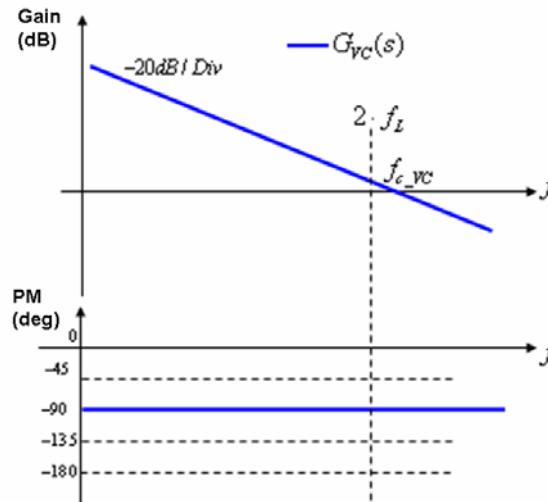

Figure 11—Bode Plots of  $G_{VC}(s)$
Therefore, we can draw the bode plots of the  $G_{VC}(s)$  with constant power load, as is shown in Figure 11.
From Figure 11 to see, the DC gain of the  $G_{VC}(s)$  is high enough for good regulation accuracy. But the phase margin (PM) of  $G_{VC}(s)$  is always  $90^\circ$ , and the crossover frequency  $f_{c\_VC}$  is hundreds of Hertz. Bode plot of the 3 types compensation networks are analysis based on the given  $G_{VC}(s)$ .